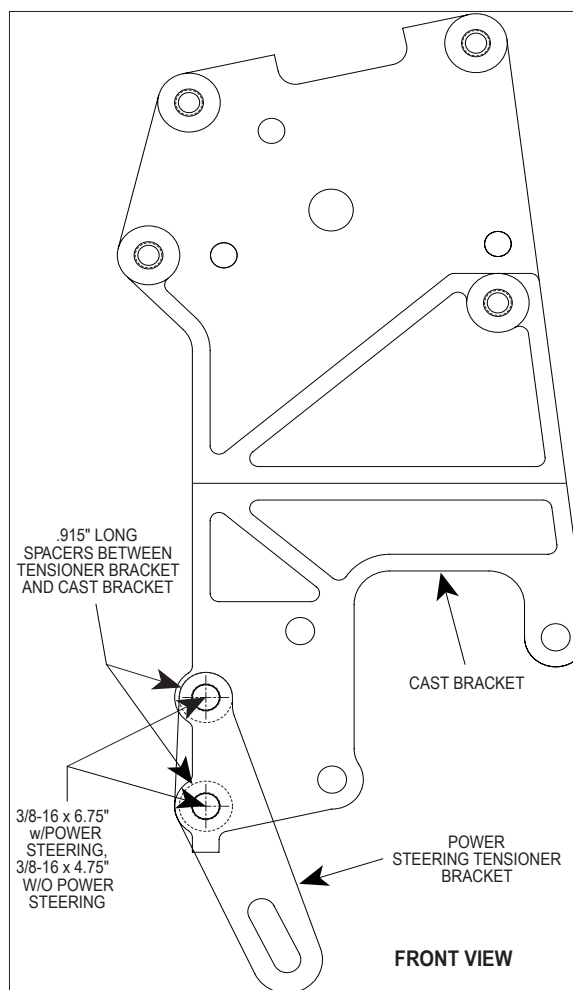

Fig. 4.2-a
2. Mount the power steering pump to the back side of the cast bracket using the supplied 3/8-16 flat-head screws. Locate the power steering pump drive flange. Using the appropriate GM power steering pulley installer, install the drive flange as you would a normal power steering pulley. (See Fig. 4.2-b.)